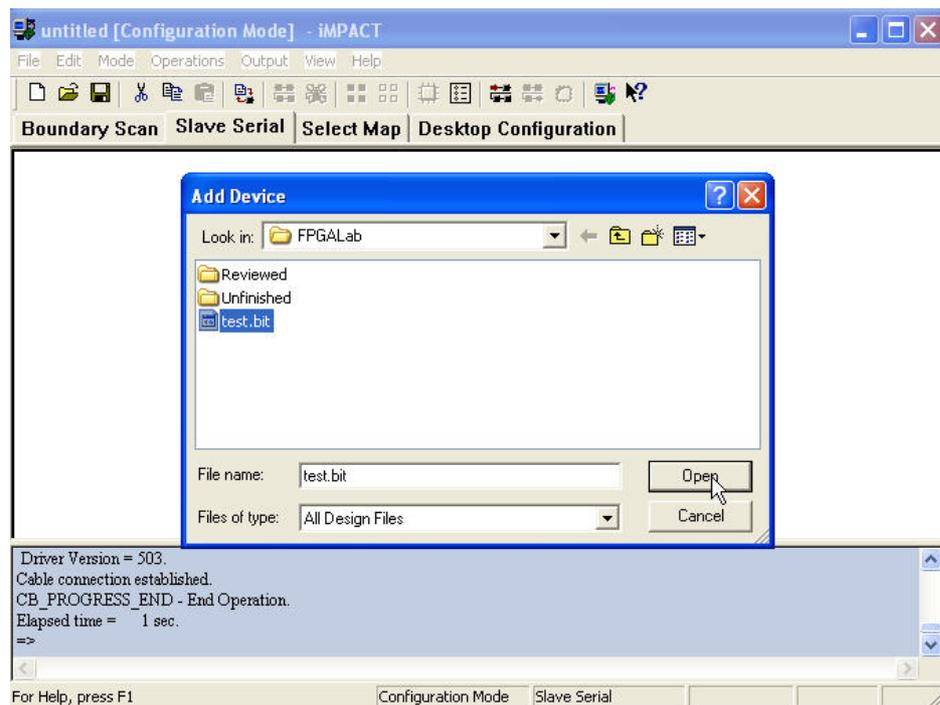

Figure 29: Bit File Loading.
4. The Design-Impact will now ask for the design file to be loaded as shown in Figure 29. This is the file that is generated when implementing the design. The default extension of this file is .bit. It is saved in the folder where the design is saved. The name of the file is the name of the project. For e.g if *abc* is the project name, the design file to be loaded is **abc.bit**.